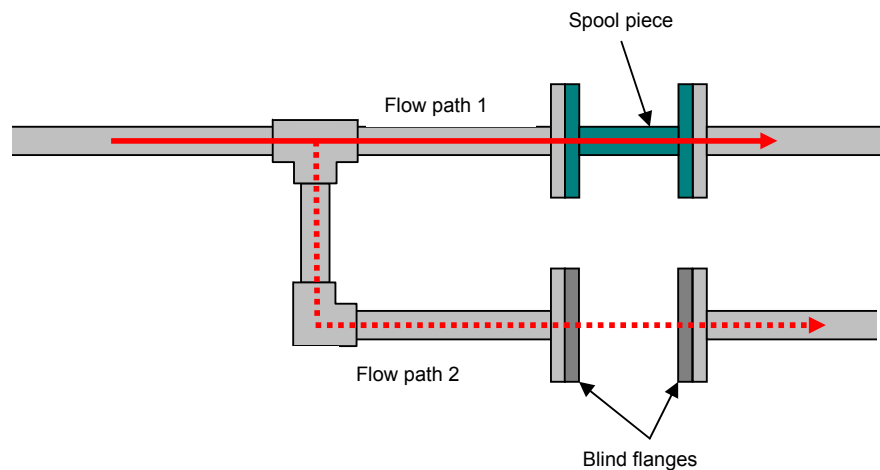

Figure 3.13: Spool Piece—Re-routing
- re-route a flow—moving the spool piece from one pipeline to another as shown in **Figure 3.13** allows flow only in one line at a time.
Removing a spool piece and fitting blind flanges, as shown in the lower branch in **Figure 3.13**, is the best way to positively isolate a section of a pipeline. In this way there is no doubt that the line is blanked off.